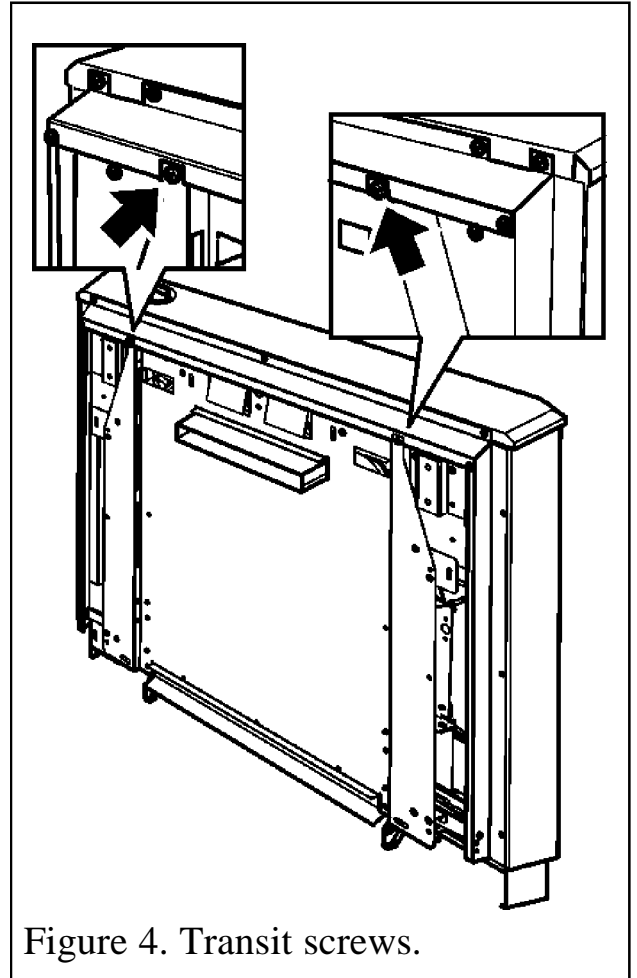

Figure 4. Transit screws.
5.3.2. Remove the two transit screws from near the top of the back panel wings (See figure 4).